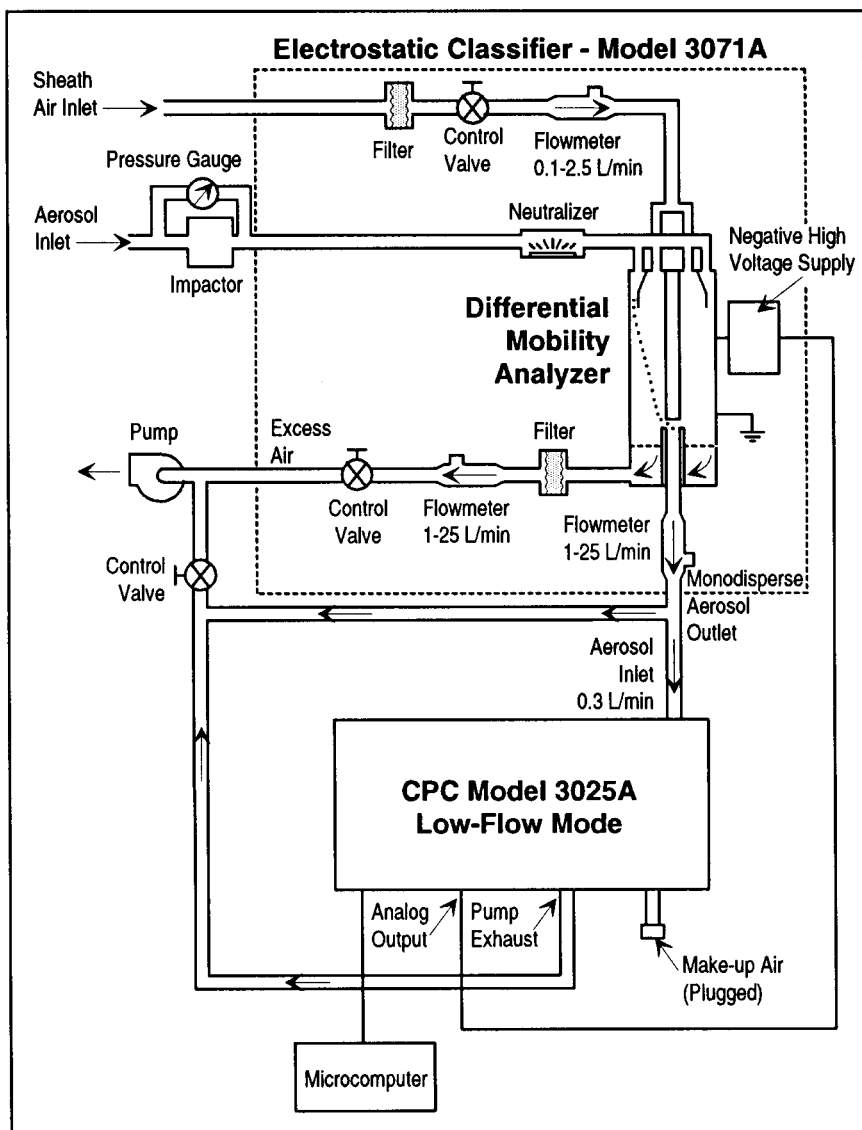

Figure 9-2
A higher resolution system that measures size distribution consists of a counter with an electrostatic classifier (EC) along with interconnecting hardware and software. Figure 9-2 shows the DMPS system in the underpressure mode.